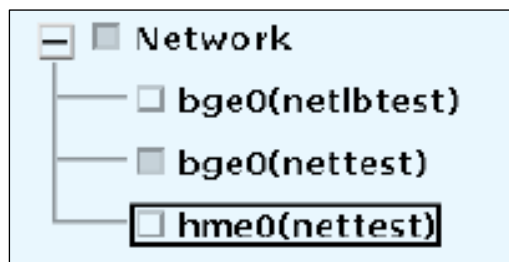

Fig. 4.4-4 Setting Network (In the case of Sun-Blade-2500)
- (b) In the case of Sun-Blade-2500, check hme1 only as shown in Fig. 4.4-4.